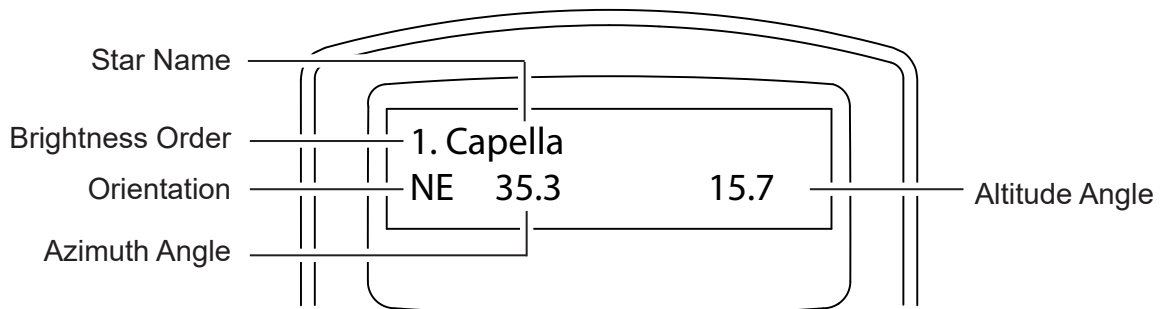

Fig. 3.4b
- The hand control will generate a list of the bright stars within the selected horizontal region. The list is sorted by the brightness of the star, with the brightest stars at the top of the list. Users can use the scroll keys to browse the list. An example of the screen display is shown in Fig. 3.4b.